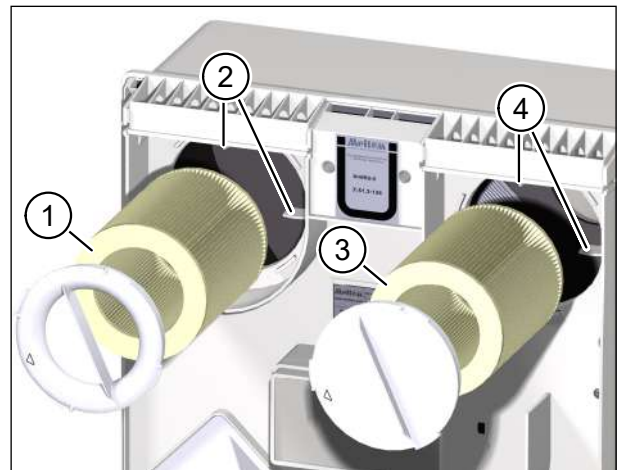

Fig. 13: Insert new air filters
- ▶ Carefully guide the new extract air filter (item 1 in Fig. 13) into the ventilation unit.
- ▶ Make sure that the air filter slides into the four retaining tabs (item 2 in Fig. 13) on the back wall of the ventilation unit.
- ▶ Carefully guide the new outdoor air filter (item 3 in Fig. 13) into the ventilation unit.
- ▶ Make sure that the air filter slides into the four retaining tabs (item 4 in Fig. 13) on the back wall of the ventilation unit.